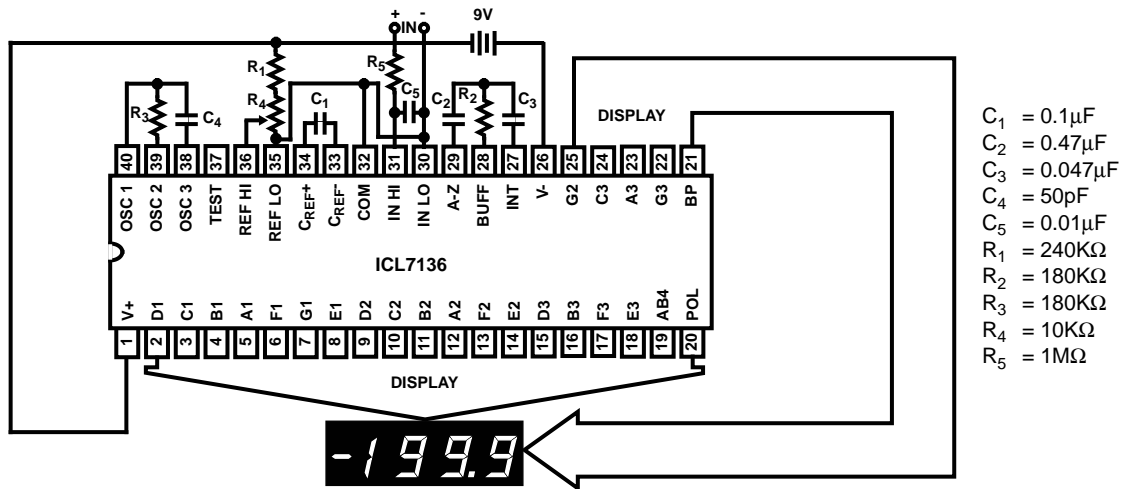
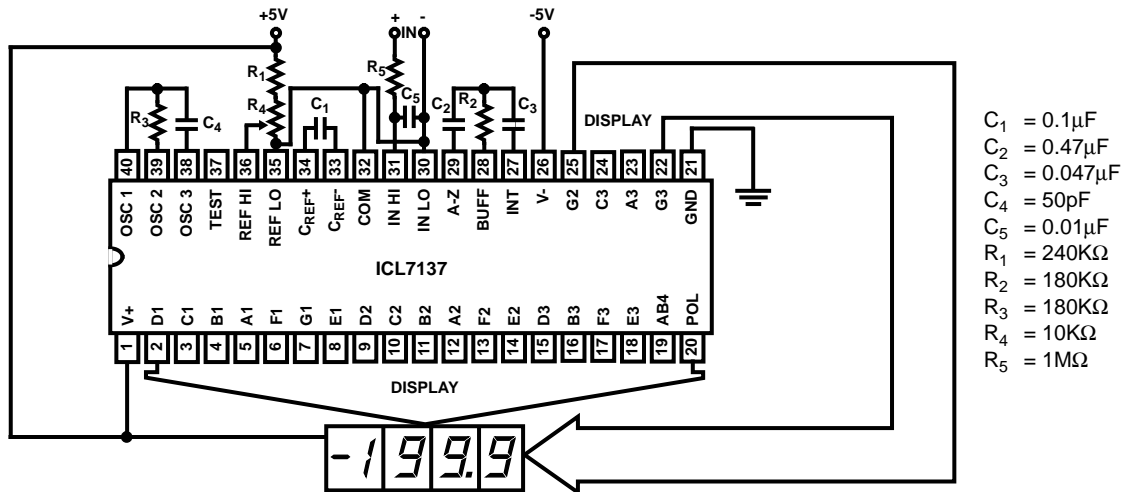

FIGURE 1. ICL7136 TEST CIRCUIT & TYPICAL APPLICATION WITH LCD DISPLAY COMPONENTS SELECTED FOR 200mV FULL-SCALE
FIGURE 2. ICL7137 TEST CIRCUIT & TYPICAL APPLICATION WITH LED DISPLAY COMPONENTS SELECTED FOR 200mV FULL-SCALE
- Unless otherwise noted, specifications apply to both the ICL7136 and ICL7137 at  $T_A = +25^\circ C$ ,  $f_{CLOCK} = 48kHz$ . ICL7136 is tested in the circuit of Figure 1. ICL7137 is tested in the circuit of Figure 2.